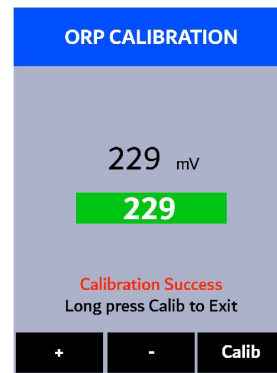

Figure 52.
9. Press **Calib** (**OK**). The message **“Calibration Success”** will appear on the display (Figure 52).